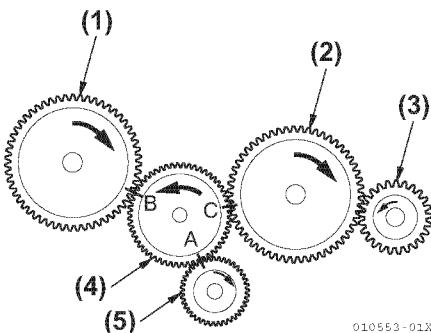

Figure 5-160
- Align the “B” match marks on the fuel injection pump drive gear and idle gear (**Figure 5-160**).